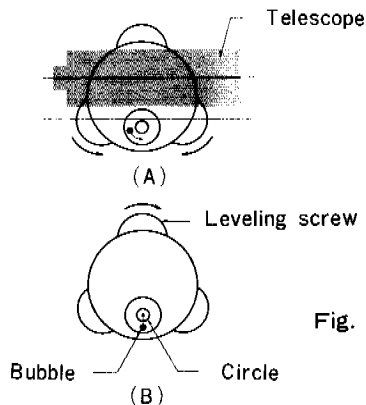

Fig. 2
- 4) Adjust three leveling screws individually until the bubble of the circular level is brought to the right position. (See fig. 2)